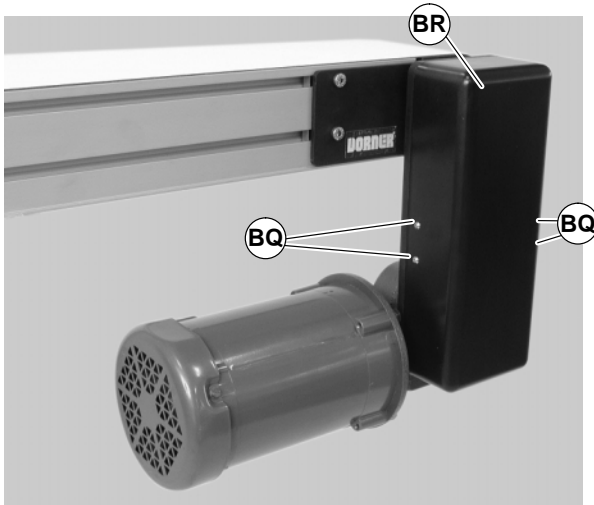

Figure 59
- Remove four (4) screws (BQ of Figure 59) and remove cover (BR).